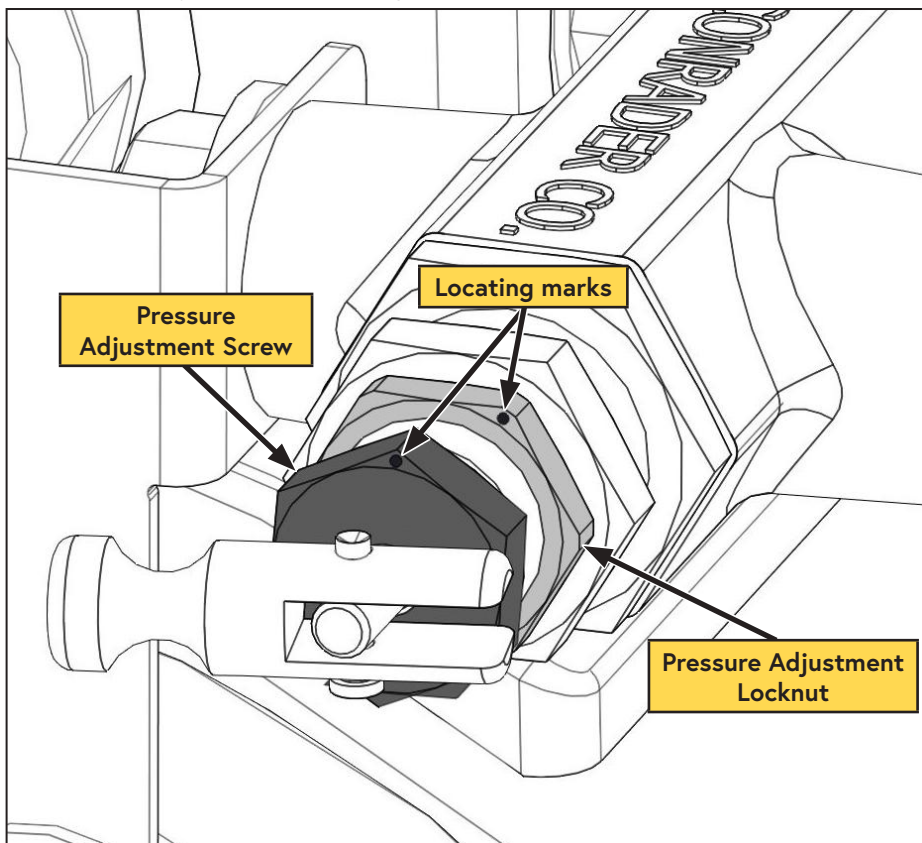

Figure 47 — Adjusting the Unloader Valve
- ☐ Make a locating mark on both the "Pressure Adjustment Locknut" and the "Pressure Adjustment Screw" (Figure 47).